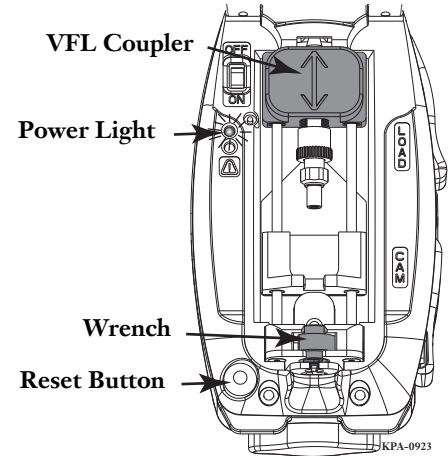

Figure 59 — Tool in Starting Position
Step 1: Turn on the tool. The Power Light will illuminate (Figure 59).
- VFL Coupler is locked back (Figure 59).